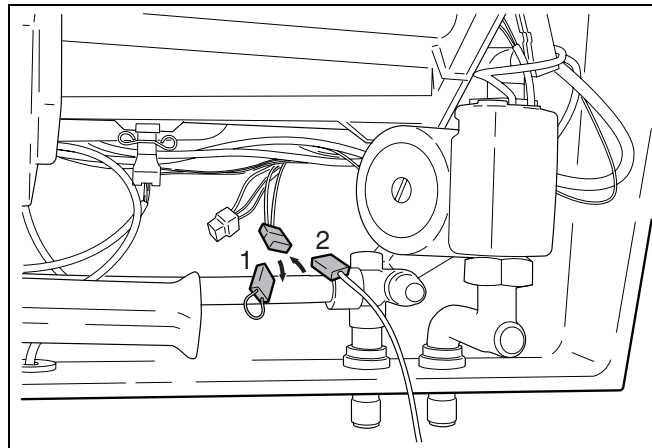

fig. 30 Hot water sensor FW for external storage-type water heater
- Remove the bridge plug (fig. 30, item 1).
- Connect 3-m long extension cable (fig. 30, item 2) for the hot water sensor to the plug and fit sensor in the reservoir.